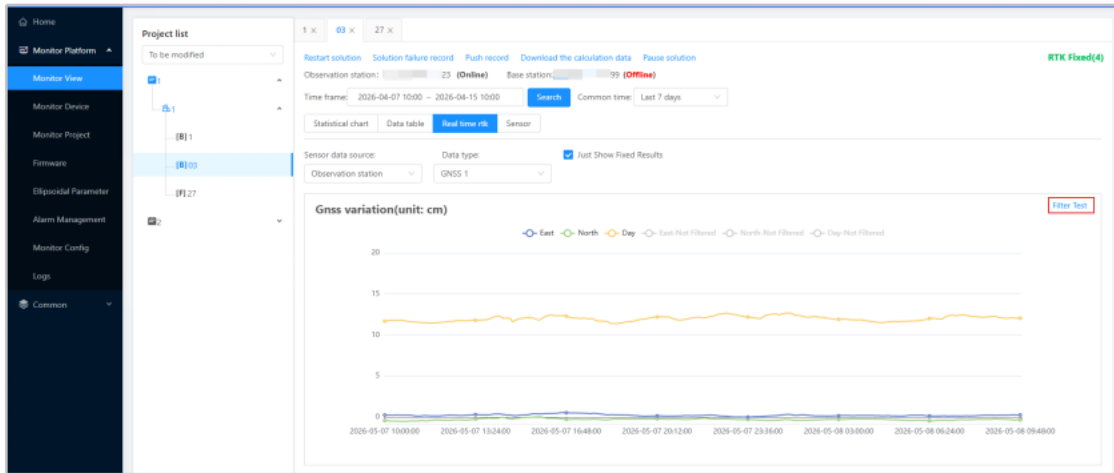
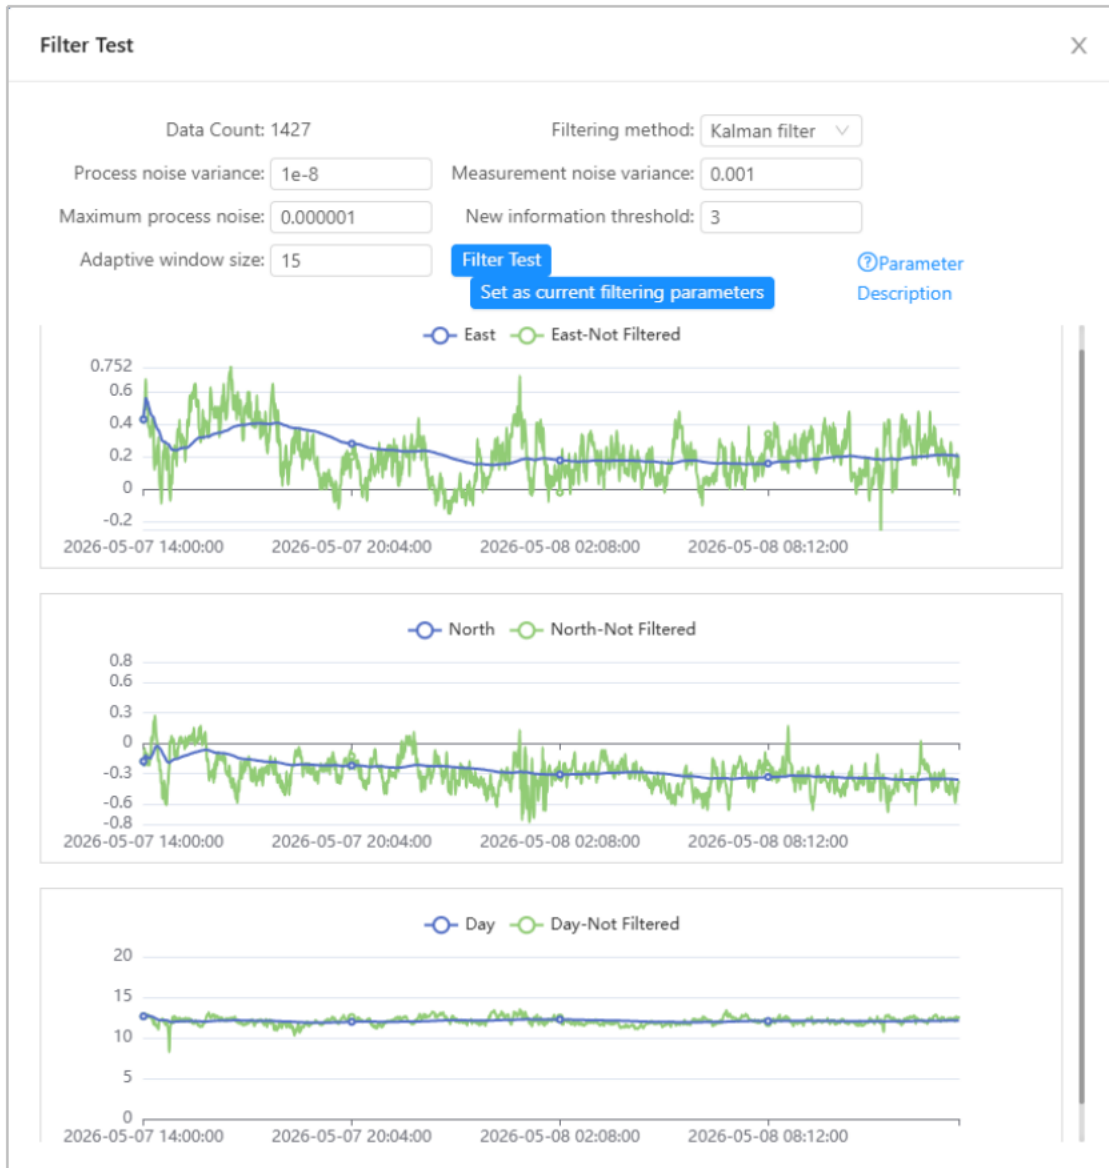

Figure 3-4
Figure 3-6
(3) Real time RTK: When the receiver is in rover mode and a fixed solution is achieved, real-time positioning data can be viewed, as shown in Figure 3-4.
Click "Filter Test" in Figure 3-4 to enter the filter settings page. On this page, you can configure the parameters: process noise variance, measurement noise variance, maximum process noise, innovation threshold, and adaptive window size, as shown in Figure 3-6.
Click "Parameter Description" in Figure 3-6 to view detailed explanations of the theoretical basis for each parameter configuration, as shown in Figure 3-7.